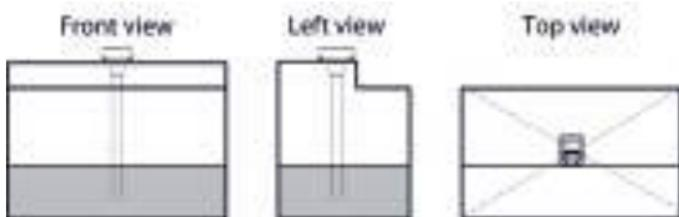

Figure 1. Selection of the installation place for Omnicomm LLS 6 AI sensor
- Installation location should be as close as possible to the geometric center and placed at the deepest level of the tank (Figure 1)